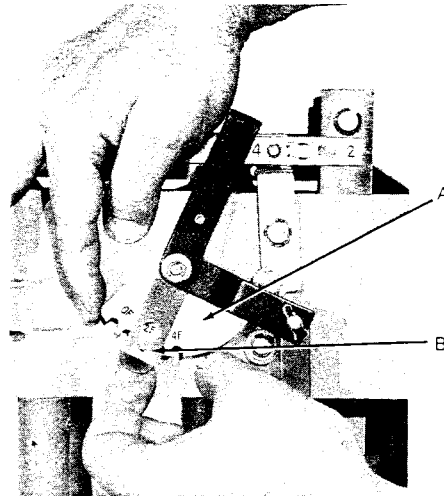

Figure 9.
- A. Lift the spring clip (B, Figure 9) to disengage the indexing pin.
- B. Rotate the plate (A, Figure 9) until the desired number of fast operations appears in the window of the spring clip.